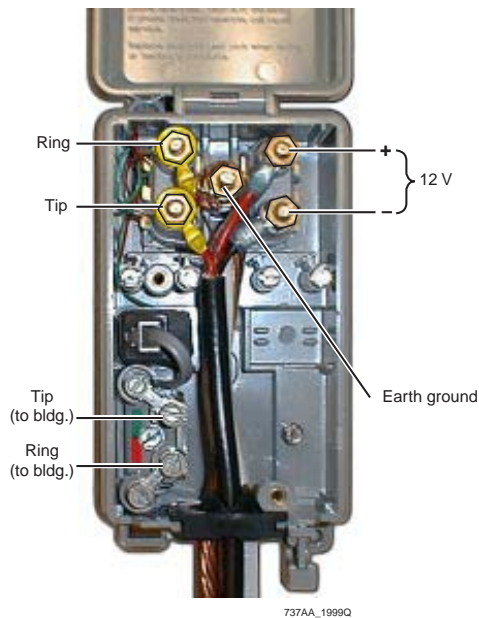

Figure 20. Service provider access open
- Connect the wires to screw posts using the rounded metal end. (See Figure 20.)